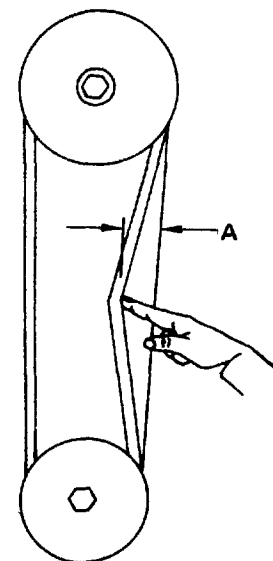

Figure 4-56. Fan Belts, Adjustment and Replacement
a. Adjustment. Use fan bracket adjusting bolt (see figure 4-56) to adjust fan belt tension so that belt deflection (dimension A) is within the specified range when pressure is applied halfway between pulleys.